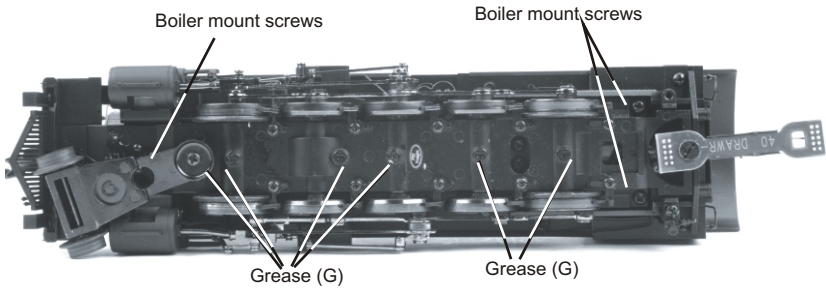

Figure 8: Boiler Mounting Screws and Lubricating the grease points
2. Remove the Phillips screws (marked “GREASE”) located at each Axle (Fig 8).
You should also grease the leading locomotive truck tongues to enhance their ability to slide on the chassis. Follow the grease points shown on Fig. 8.
2. Remove the 3 body mount screws shown in Fig 8.
If you experience poor or no smoke output when the smoke unit is on and has fluid, check the wick to see if it has become hard, blackened, and unabsorbent around the heating element. To remove the smoke unit you will first have to remove the boiler shell (by removing the body mounting screws shown in Fig. 8 on pg. 15), board and bracket that block the smoke unit assembly from being accessed.